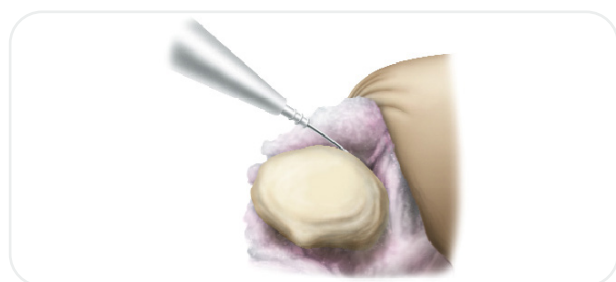

Figure 46
1. Trim tissue surrounding the patella using electrocautery (bovie) (**Figure 46**).